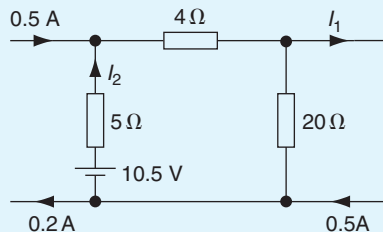

Figure 13.13
- Calculate the currents  $I_1$  and  $I_2$  in Fig. 13.13.